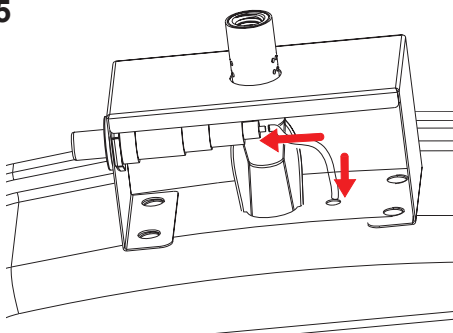
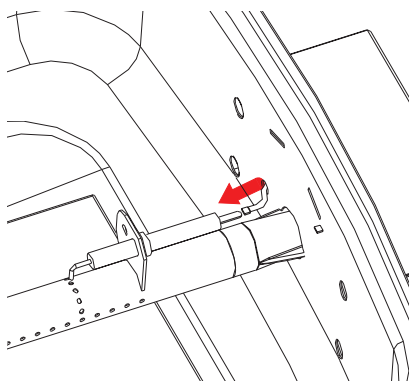

Fig. 5A
Fig. 5B
*Procedure:* Insert the round end of Igniter Wire onto the Igniter as shown in Fig 5A. Push the other end of the Igniter wire into the opening on the firebox, then attach onto the pin end of the electrode as shown in Fig. 5B.